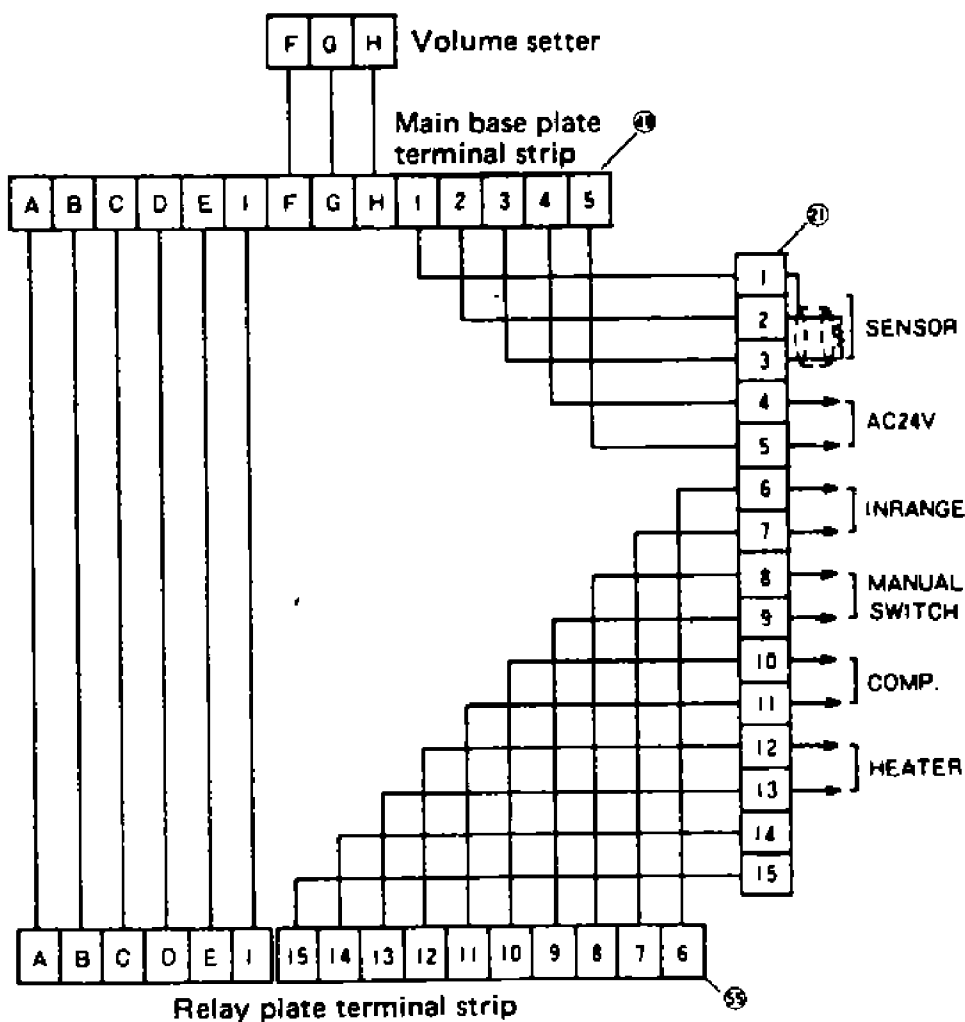

Fig. 8 Internal wiring diagram
**Note:** Lay the wiring correctly in accordance with Fig. 8 when the main base plate and the relay plate are replaced.